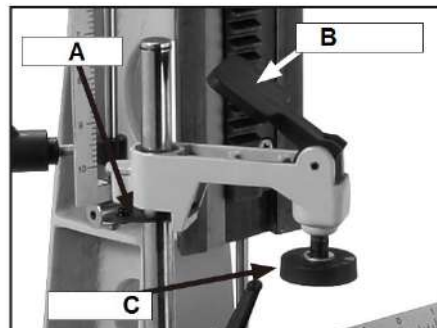

Fig 11
To use and adjust the table clamps (Figure 11):
1. Squeeze the small rod clamp (A Fig 11) at the rear of the clamp body to adjust the height.
2. Lift the clamp handle (B Fig 11) to raise the clamp face (C Fig 11), and push it down towards the clamp body to clamp onto a workpiece.